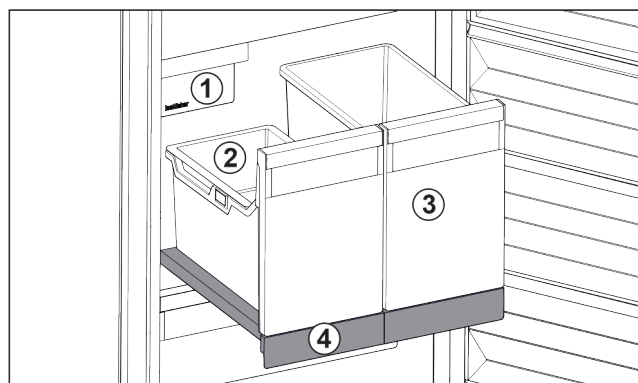

Fig. 137 Pull-out board with IceTower
There are two high (IceTower) containers on the pull-out board. Ice cubes from the IceMaker are collected and stored in the Fig. 137 (2) container. The container Fig. 137 (3) is suitable for storing tall foodstuffs or beverages such as pizzas or alcoholic drinks.